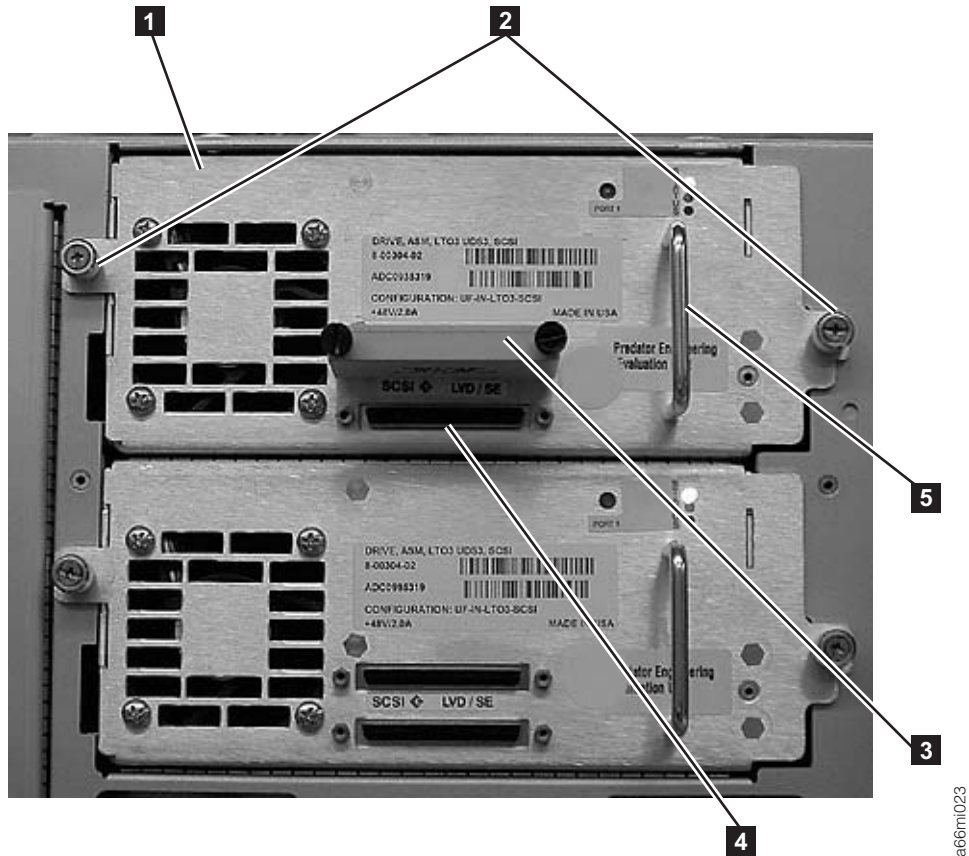

Figure 4-6. SCSI drive sled (detail)
1. Loosen the two thumb screws (**2** in Figure 4-6) that hold the drive sled in place by turning them counterclockwise.
2. To remove the drive sled, grasp the handle (**5** in Figure 4-6) and slowly pull it toward you, while the drive sled is supported from underneath.